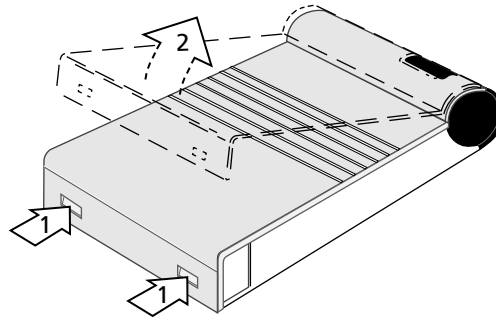

Figure 4. Releasing the cover.
- 3 Release the cover, see figure 4 on page 4.